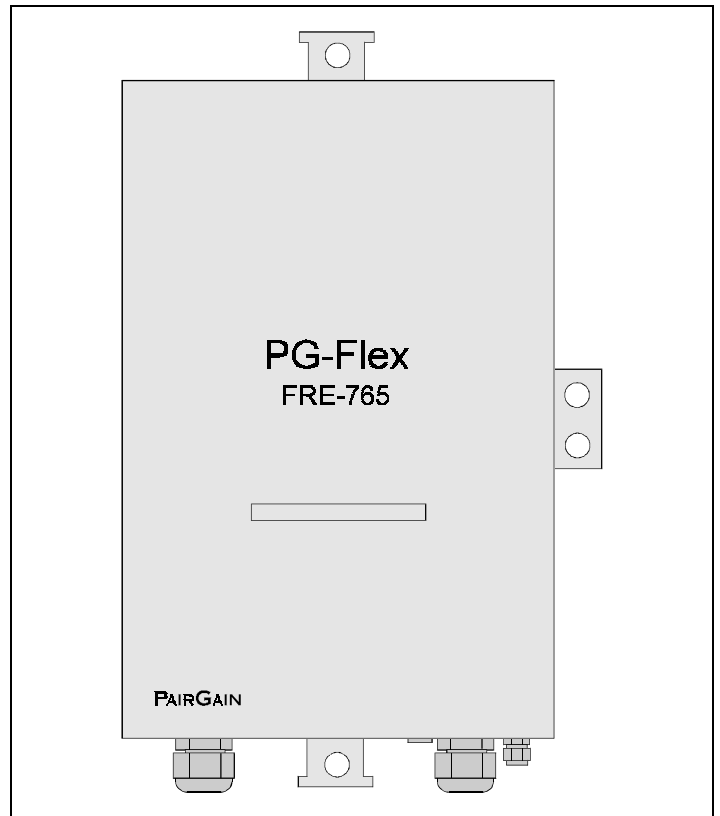

Figure 1. FRE-765 RT Enclosure, List 1. The PairGain FRE-765 houses the RT Line and Channel Units and connections for subscriber circuits.
1.01 The PG-Flex FRE-765 Remote Terminal (RT) Enclosure (Figure 1) provides convenient mounting of RT Line and Channel Units as well as termination points for subscriber circuits, power, and metallic test access. The Enclosure supports up to 32 channels with one RT Line Card and up to four RT Channel Cards. Amp Quiet Front™ terminations are provided on the backplane for HDSL and Bypass connections. The enclosure may be pole- or wall-mounted and is environmentally sealed for outside plant installations.